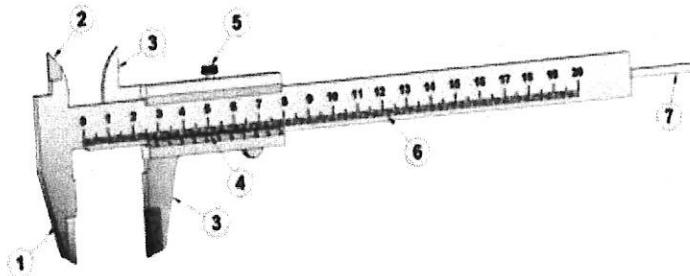

Figure 1/Rajah 1
- CLO1 (a) (i) Name the parts of a vernier caliper below in figure 1.